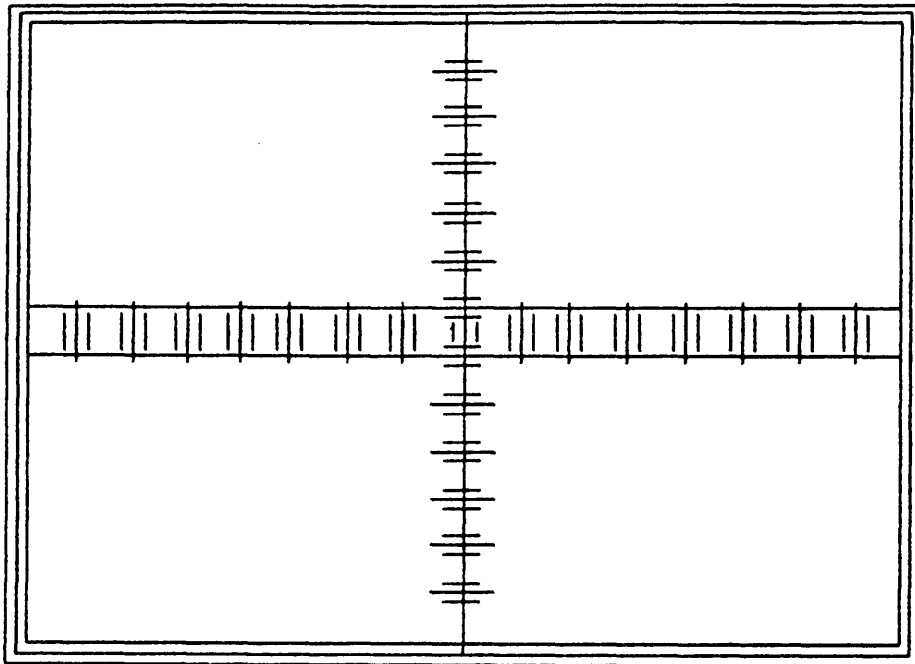

Figure 3
3. Place the alignment graticule (Figure 3) on the Lisa screen. Note that for each crosshatch line there are three marks on the graticule: the middle mark is the ideal setting, the two outer marks define the tolerance. Always try to get as close as possible to the ideal mark, as the adjustments will probably shift somewhat after you make them.